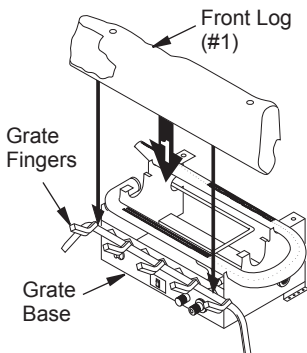

Figure 18 - Installing Front Log (#1)
1. Place front log (#1) on grate fingers. Make sure front log rests firmly between grate fingers and grate base (see Figure 18).